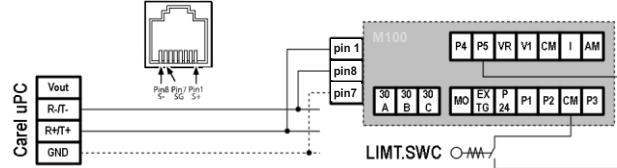

Figure 3
- Wire the communication terminal of the iCS inverter according to the Figure 3